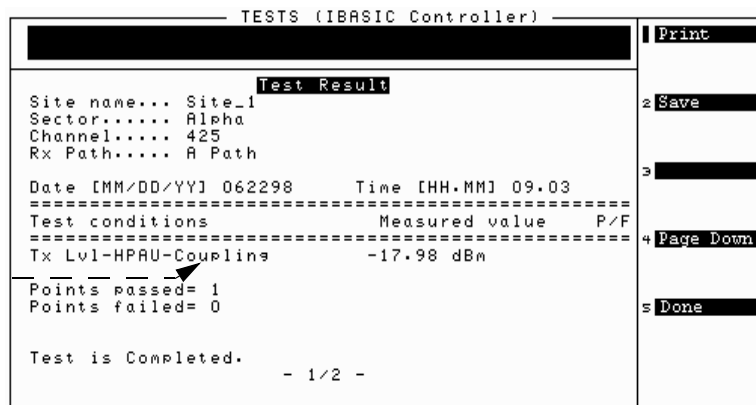

Figure 31 Test Results Table for TX Level - HPAU Measurement
- Press k1 (Proceed) to proceed to the test results table when you are finished testing on this screen (see figure 31).